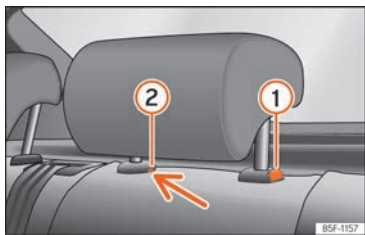

Fig. 111 Rear headrest: removal.
- Press button »» Fig. 111 ①, while simultaneously pressing on the security hole ② with a flat screwdriver a maximum of 5 mm wide, and remove the headrest.